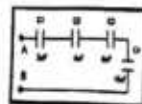

Fig. 16 Series capacitance
1. What is the total capacitance C_T of the series combination of capacitors shown in Figure 16?